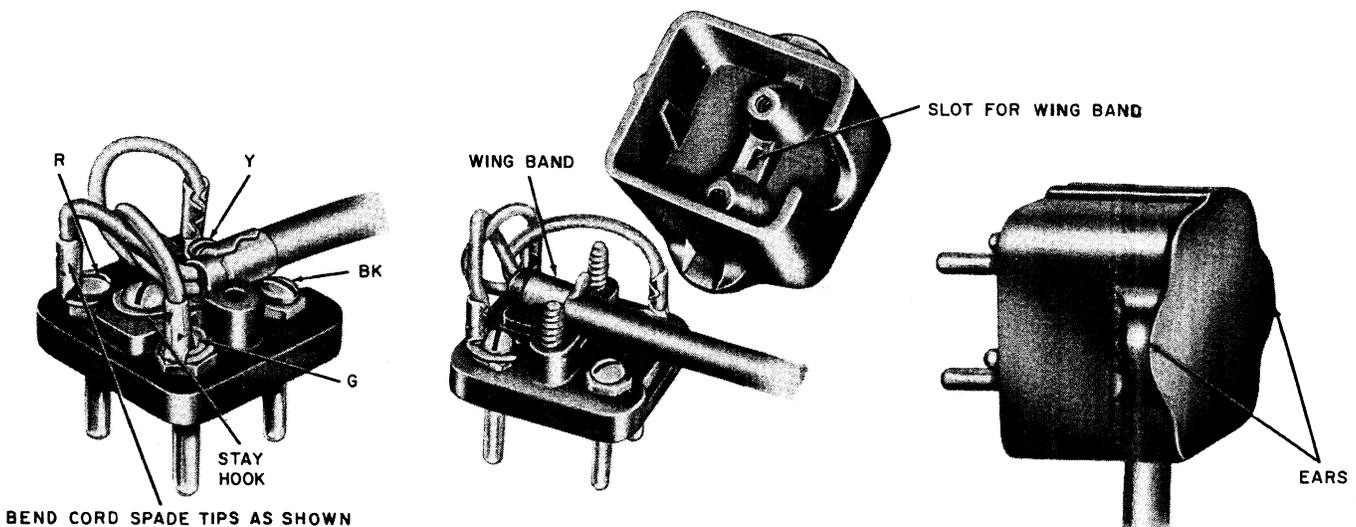

Fig. 9—Terminating D3BP and D4BK Cords on 283B Plug
- (1) Make connections as indicated by color designations stamped adjacent to terminals (Fig. 9).
- (2) Bend cord spade tips up as shown in Fig. 9.
- (3) Place one edge of wingband in the larger (shallow drilled) of the two holes in the base.
(4) Place cover so cord and wingband will seat properly in their slots.
(5) Seat base of plug in its cover before tightening screws in order to prevent pinching of cord conductors.